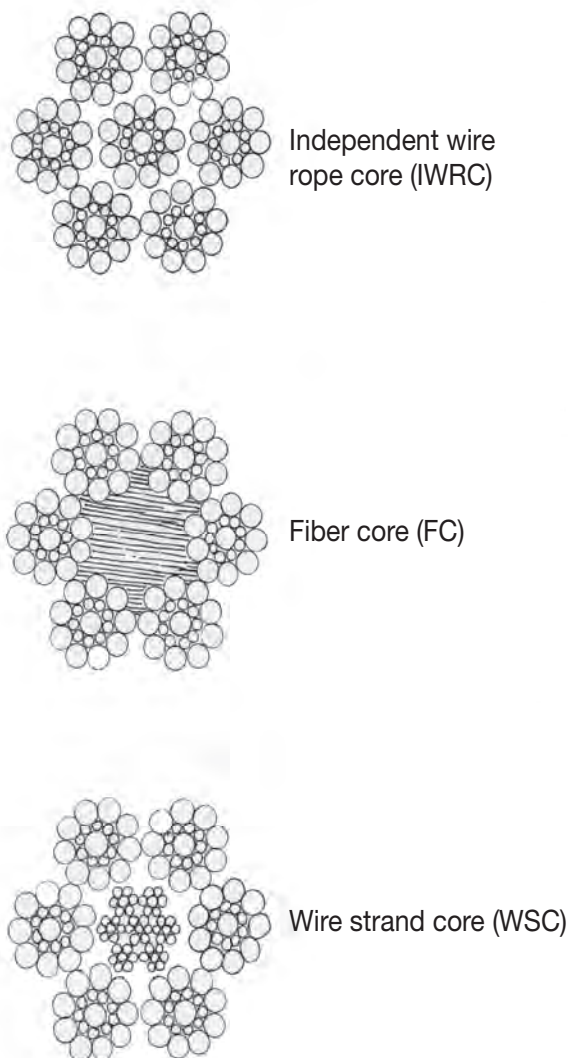

Figure 2-3—Typical 6 by 19 wire rope construction.
Core—The core is the foundation of wire rope (figure 2-3). Core material can be either steel or some form of fiber. The most common core designations are independent wire rope core (IWRC), which is a common rigging wire rope; fiber core (FC), either natural or synthetic; and wire strand core (WSC). The core can provide up to 50 percent of the overall strength in IWRC configurations.